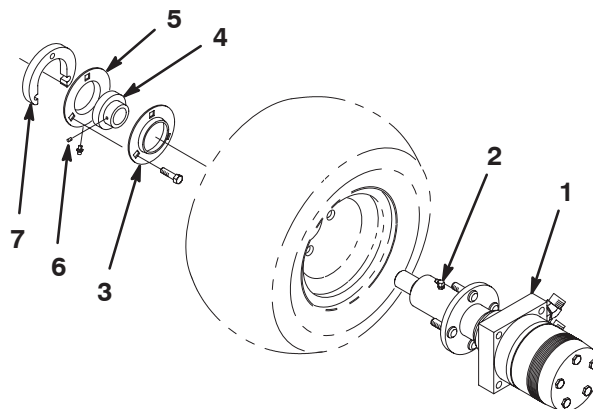

Figure 1
- A. Remove the capscrews and lock nuts securing the flangettes and adapter plate to the castor fork (Fig. 1).
- B. Remove both socket head screws, flat washers and lock nuts securing the hydraulic motor and hub assembly to the castor fork (Fig. 1).
5. Loosen both setscrews on bearing. Slide flangettes and bearing off the motor shaft (Fig. 1).
6. Remove the grease fitting from the hydraulic motor and hub assembly (Fig. 1). Remove four lug nuts and wheel assembly from the hub drive studs.